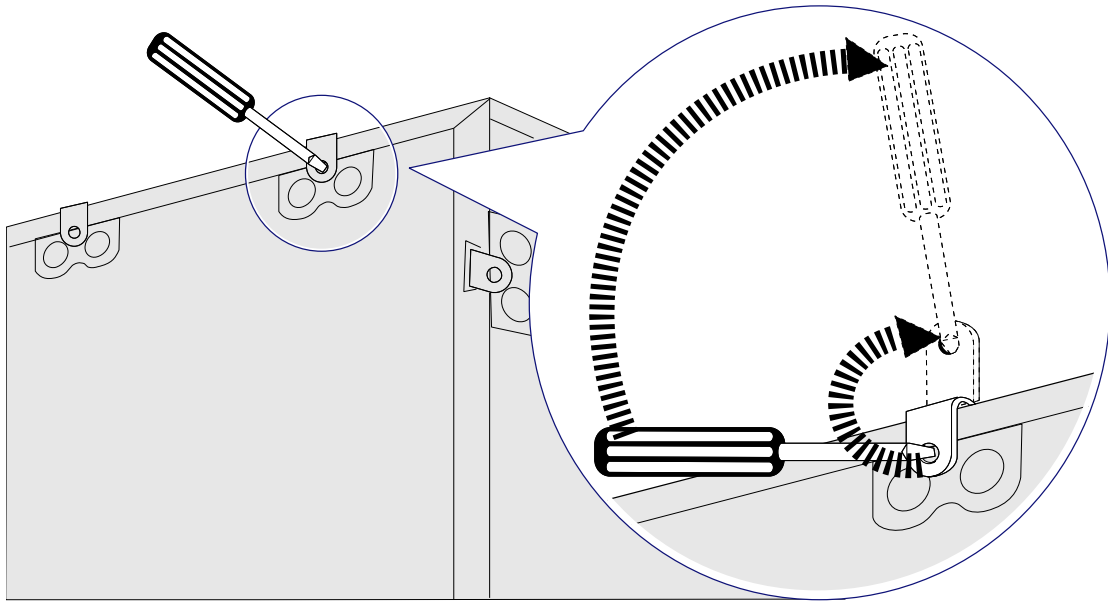

Figure 3-2 Removing the Cover
Step 3 Use a Claw hammer or a straight screwdriver to pry the tongue, as shown in Figure 3-2.